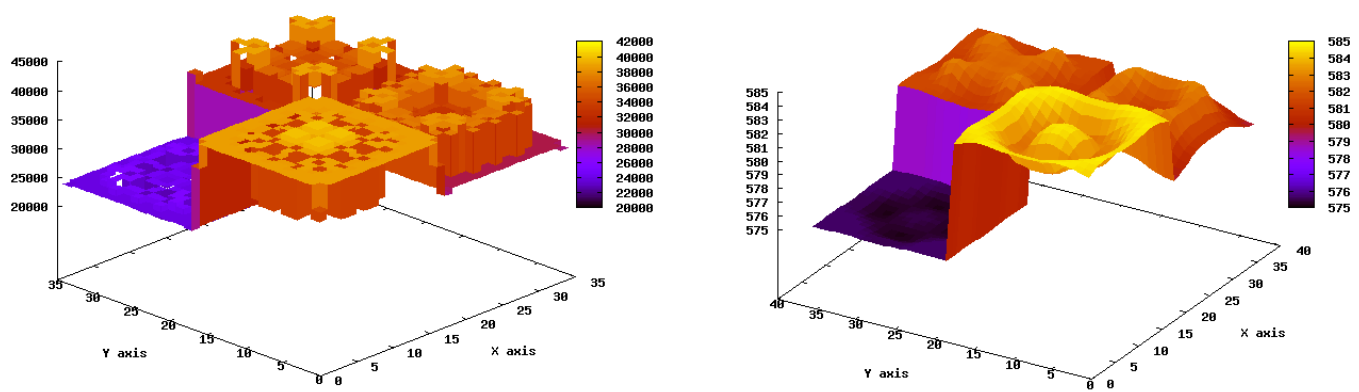

Figure 9.7: Complex COBRA coupled simulation : 20 axial levels and 4*7 radial regions. Right: 3D Power distribution (W). Left: Exit coolant temperature (K)
- Power distribution: left of figure 9.7
- Exit coolant temperature profile: right of figure 9.7.